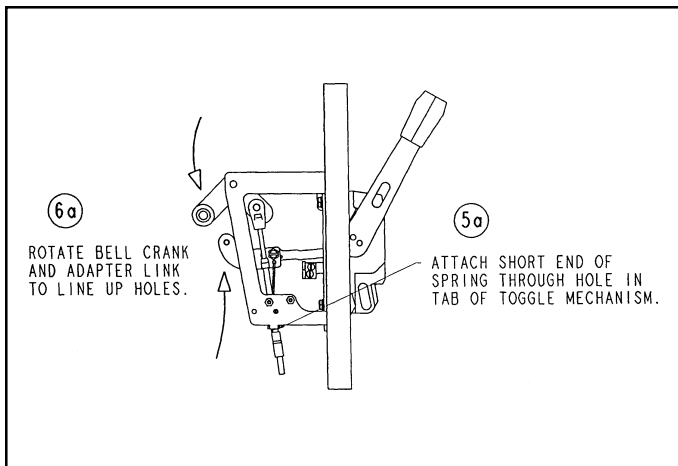

Fig. 1-5 Assembly of Spring to Toggle Mechanism
5. Hook the shorter end of the spring into the tab on the lower portion of the toggle mechanism. See Fig. 1-5.
6. Align adapter link with the bell crank. Attach bell crank to adapter link with shoulder bolt and nut. Fasten securely ... Do not overtighten. See Fig. 1-5 and 1-6.